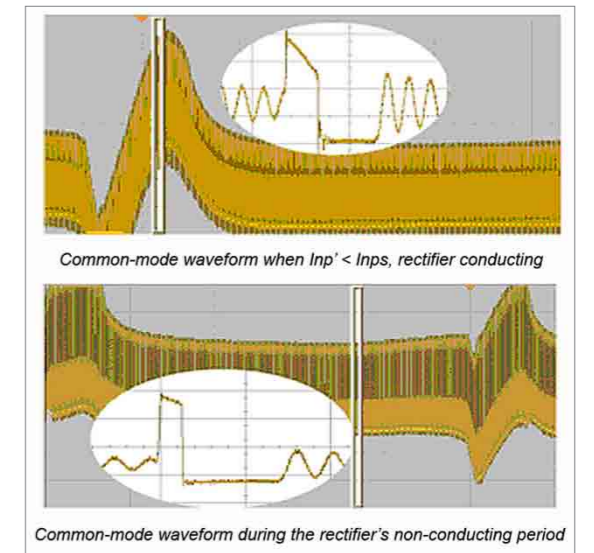

Figure 2. Top trace— common-mode waveform when  $I_{np'} < I_{np}$
2.  $I_{np} < I_{np}$ —the waveform is proportional to the inverted switching signal—see the top trace in figure 2.
As the bottom trace in figure 2 shows, the waveform during the BNT interval will always be the